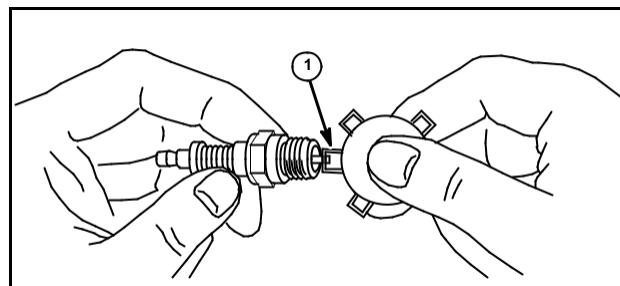

Fig. 4
Gap spark plug to .030" (0.76 mm) gap (1), Fig. 4. Replace spark plug if electrodes are burned away or porcelain is cracked. **DO NOT USE ABRASIVE CLEANING MACHINES.**